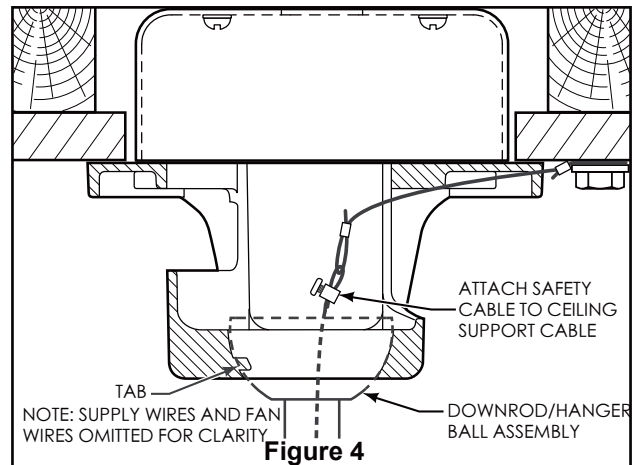

Figure 4
4. Carefully lift the fan and seat the downrod/hanger ball assembly on the hanger bracket that was just attached to the ceiling joist. Be sure the groove in the ball is lined up with tab on the hanger bracket. (Figure 4)
5. Attach the safety cable to ceiling support cable. Slide cable clamp onto safety cable (from fan). Place the end of cable through the loop of ceiling support cable. Pull as much cable through loop as possible. Feed end of cable into clamp hole and firmly tighten screw (Figure 4). Cut off excess safety cable.
3. After connections have been made, turn leads upward and carefully push leads into the outlet box, with the white and green leads to one side of the box and the black leads to the other side. (Figure 4)
4. To set the remote code with a small screwdriver or ball point pen (neither included), slide dip switches firmly up or down. (Figure 4)